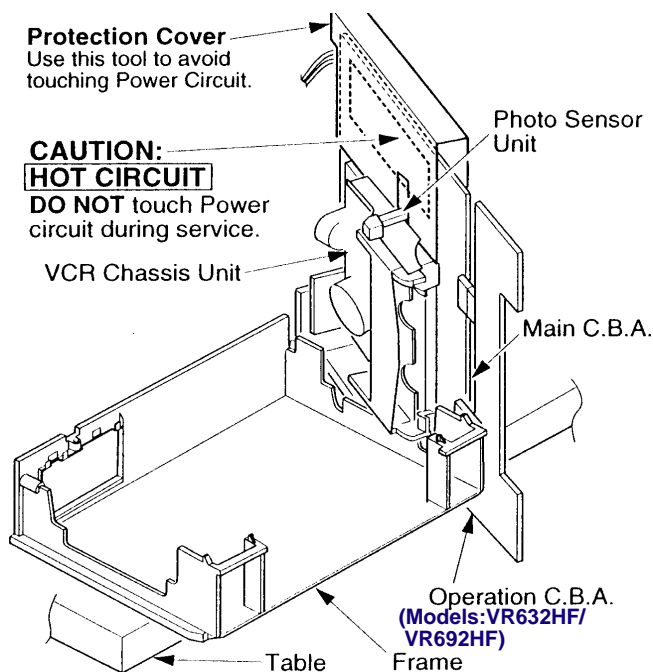

Fig. 3 - Service Position (2)
Service Position (2) (Fig. 3)
3. Position the VCR chassis unit as shown in Fig. 3 to access the areas requiring service.